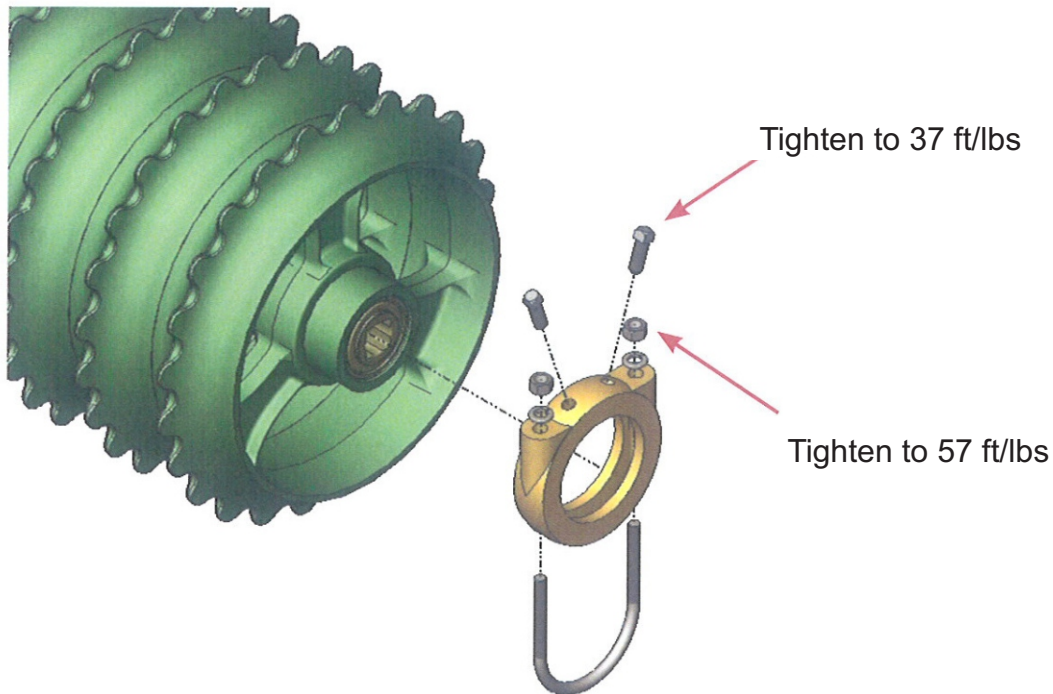

Figure 2-1: Clamp Tightening
4. Tighten the U-bolt evenly to 57 ft/lbs (U-bolt must be tightened first.) **See Figure 2-1.**